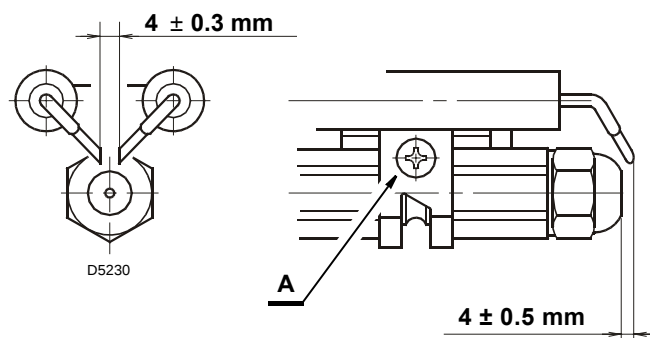

Fig. 21
Before removing or assembling the nozzle, loosen the screw A)(Fig. 21) and move the electrodes ahead.
- Remove the electrodes assembly 5) from the nozzle holder 4) after loosing its fixing screw A)(Fig. 21 on page 21).